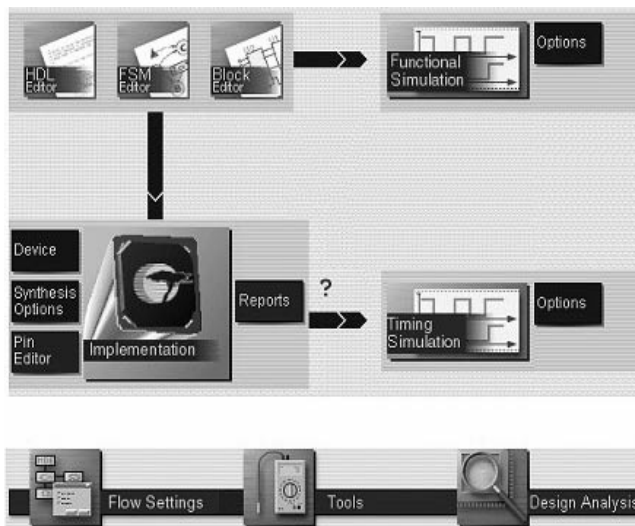
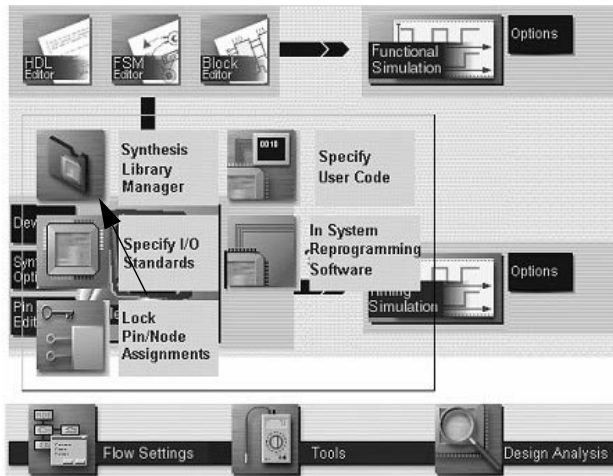

Figure 2. Design Flow Diagram in *Warp Enterprise/Professional*.
Figure 3. Warp Synthesis Library
1. Start *Warp Enterprise/Professional* and select "View -> Flow". Figure 2 will appear and the user can click on the different component of the design flow to accomplish the task described in the figure.
2. In Figure 2, click on the 'Tools' picture, then the 'Synthesis Library Manager' picture shown by the arrow in Figure 3. A library window will automatically appear and *Warp Enterprise/Professional* will automatically create a *Warp* library. The content of the *Warp* library is stored in a synthesis folder under the same directory as the design created in section "Creating a project in *Warp Enterprise/Professional*".
2. After all the files are present in the library, click the '**Synthesis Option**' button in Figure 2 to make sure that the synthesis options are set correctly. It is suggested that the user disables the "logic to memory mapping".
4. Click on the '**Implementation**' picture in Figure 2 and another window will come up displaying all the files in the library. Select the files to be compiled and synthesized in Warp. Hit '**OK**' and this will link to Warp and synthesize the design in the library using Warp.
- The user can then use the '**Block Editor**' feature of *Warp Enterprise/Professional* shown in Figure 2 to do his/her design with the core wrappers.